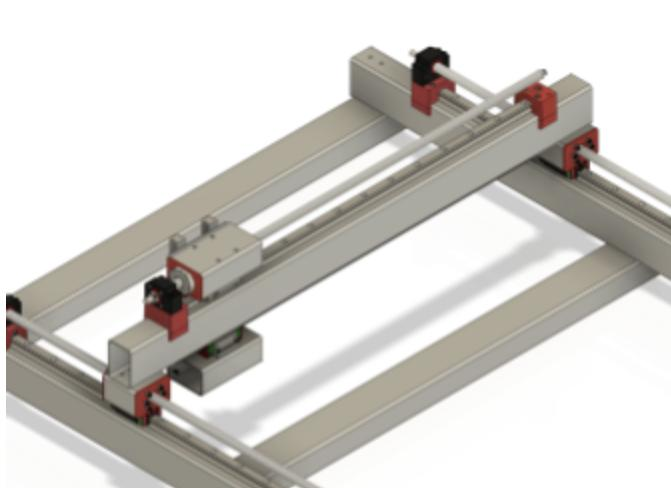

Figure 12.10
13. Pass the empty end of the ball screw through the top X-Axis roller beam, the result should look like Figure 12.10 and 12.11.